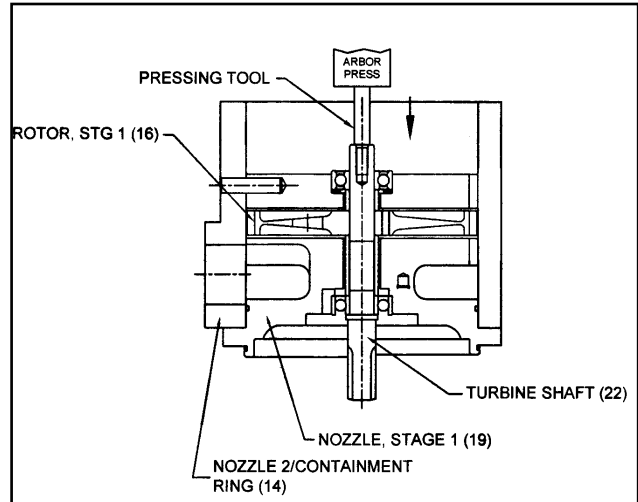

Figure 8. Turbine Shaft Removal
With the exhaust end facing up press turbine shaft (22) through turbine housing (19) as shown in figure 8.